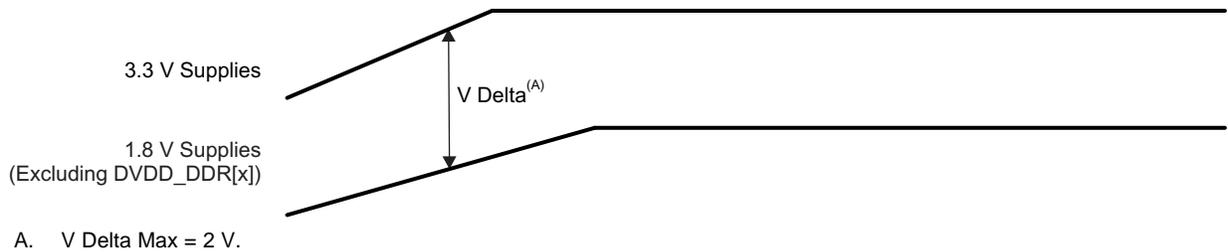

Figure 7-2. 3.3 V Supplies Rising Before 1.8 V Supplies Delta
(1) The 3.3 V supplies **must** never be more than 2 V above the 1.8 V supplies (see Figure 7-2).
(2) The 1.8 V supplies **must** be \geq 1.5-/1.8-V DVDD_DDR[x] and CVDD, CVDD_x variable supplies.
(1) The 1.8 V supplies **must** be \geq 1.5-/1.8-V DVDD_DDR[x] and CVDD, CVDD_x variable supplies.
(2) The 3.3 V supplies **must** never be more than 2 V above the 1.8 V supplies (see Figure 7-2).